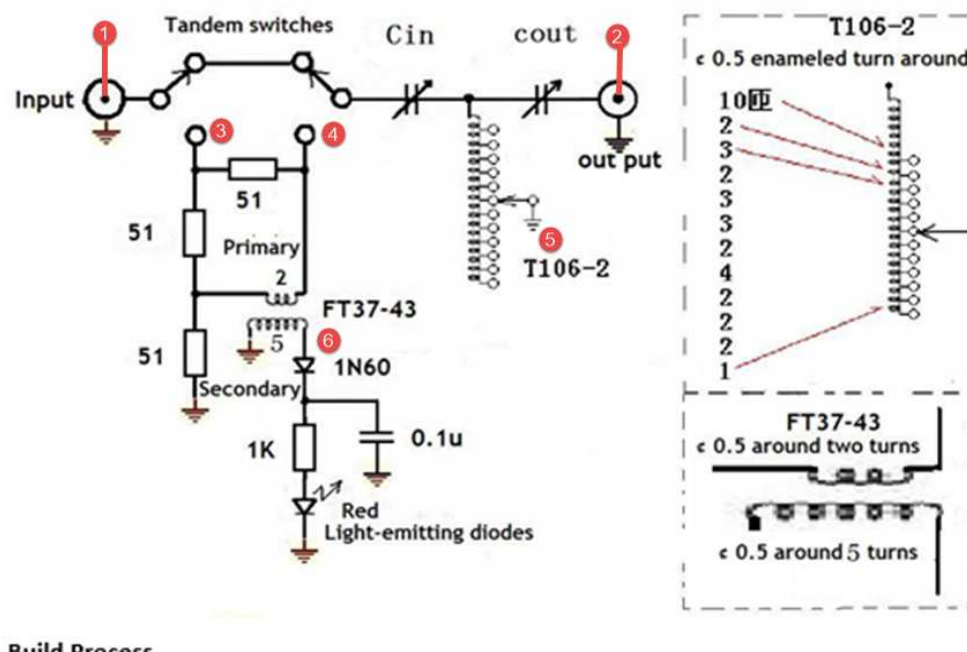

Figure 22 – Test Points
- 2) Another check, if you have the tool (either an expensive capacitance checker or a low cost component checker - Geekcreit® LCR-T4 12864 LCD Graphical Transistor Tester Resistance Capacitance or its many other names and makers, is checking from TX input centre conductor (1) to RX output centre conductor (2), and confirm you can see about 20 - 120pf (remember you have two 240pf capacitors in series, so the you expect to see half the capacitance. It's a good way of checking both variable capacitors are working, and you haven't inadvertently put a screw through the plates. Just remember these devices are no good for below 20pf, (but far better than multimeters that measure capacitance as many cannot get in to the picofarad range).
- 3) Now putting the switch into "SWR indicator" mode (so we are switching the SWR Indicator in), put one probe on earth, and the other probe on the point marked (3) in figure 22 – Test Points and you should get a reading